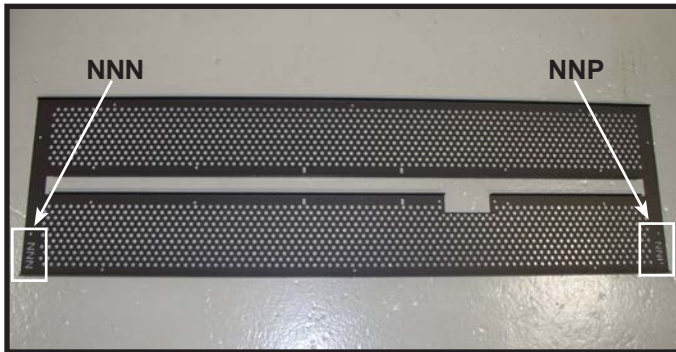

Figure 8. Location of Base Pan Identification
1. Verify the correct base pan is in the appliance before proceeding with the porcelain installation. The base pan required for this application has the letters “NNN” and “NNP” stamped in it. See Figure 8. If the base pan does not have these letters stamped in it, contact your dealer.